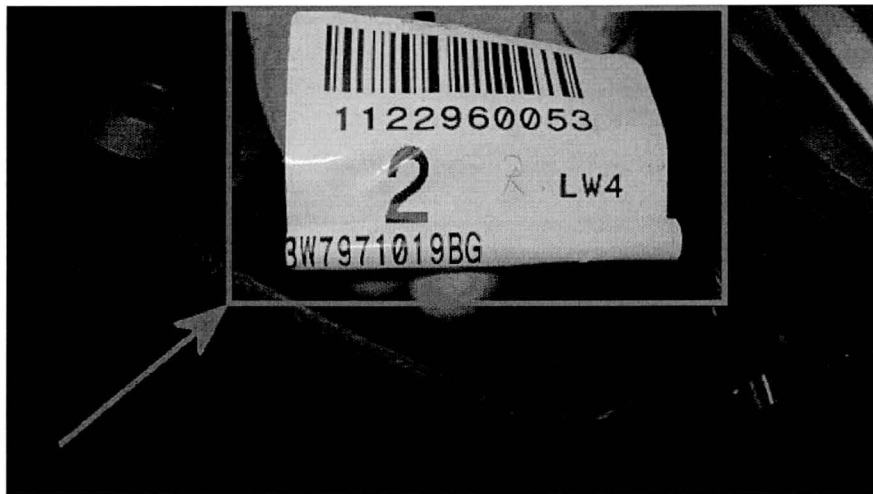

Figure 2
1. Please ensure that clear photographs of the main harness labels as Figures 2 - 3 and 4 are attached to the DISS ticket before submitting
Figure 2 shows the front face of the label which includes part number information